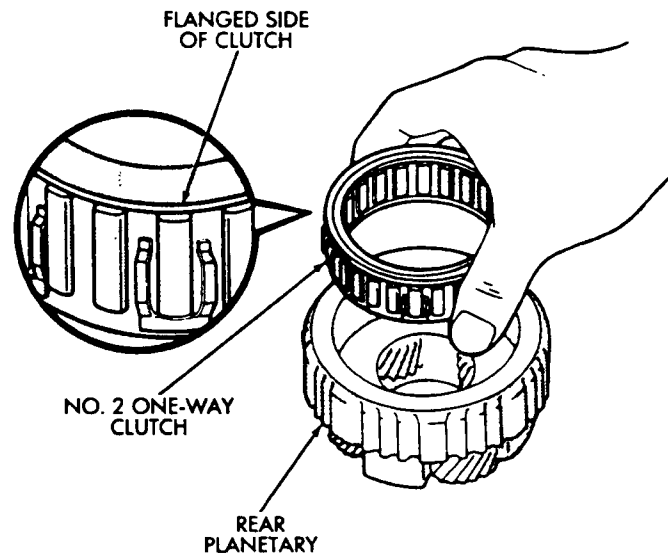

Fig. 12 Installing No. 2 One-Way Clutch
(5) Install No. 2 one-way clutch in planetary gear. Be sure flanged side of clutch faces upward (Fig. 12).